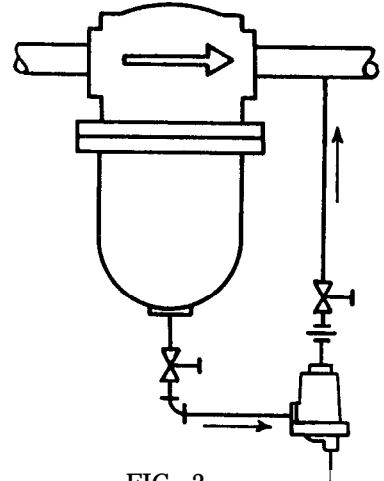

FIG. 3
- b) Drainers installed on separators and drip points should be vented to the downstream side of the piece of equipment. (As shown in Figure 3.)